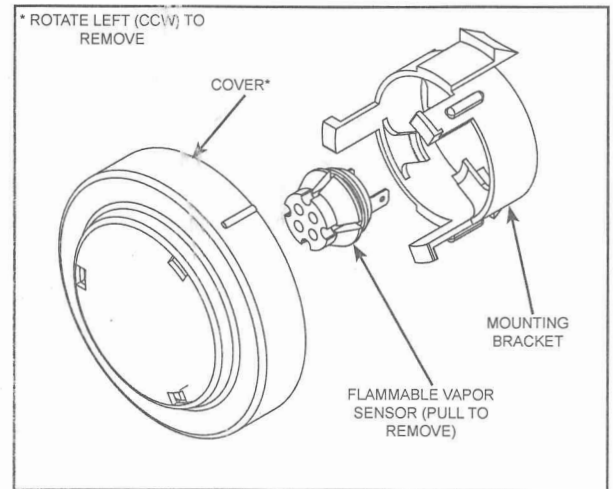

Figure 1
When using a gas fired water heater there is a risk of flammable vapors entering the combustion chamber, being ignited by the burner flame and causing a flashback. In order to detect such flammable vapors before they enter the combustion chamber, this water heater is equipped with a flammable vapor sensor (FVS). It is a chemical-absorption based sensor that is connected to the gas control/thermostat (see Figure 1). When exposed to flammable vapors it will trigger the control to stop the flow of gas and enter the FVS lockout state. While in the FVS lockout state the LED on the control will flash the gas lockout code. Refer to the "Gas Control Led Status Codes" section for an explanation of the codes applicable to the control installed on your water heater. If an FVS lockout occurs, check around the water heater for sources of chemical contamination such as flammable vapors including gas vapors, solvents, paint and thinners as well as sources of water and detergents.
1. Set the gas control valve/thermostat to its lowest setting by turning the knob counter-clockwise to the VAC point (see Figure 1).
2. Turn the gas control switch to the "OFF" position (see Figure 1). Turn "OFF" the main gas supply to the heater.
5. The sensor is snapped into place in the mounting bracket. Pull the sensor to remove it (see Figure 1).
6. Disconnect the two (2) leads from the rear of the sensor.